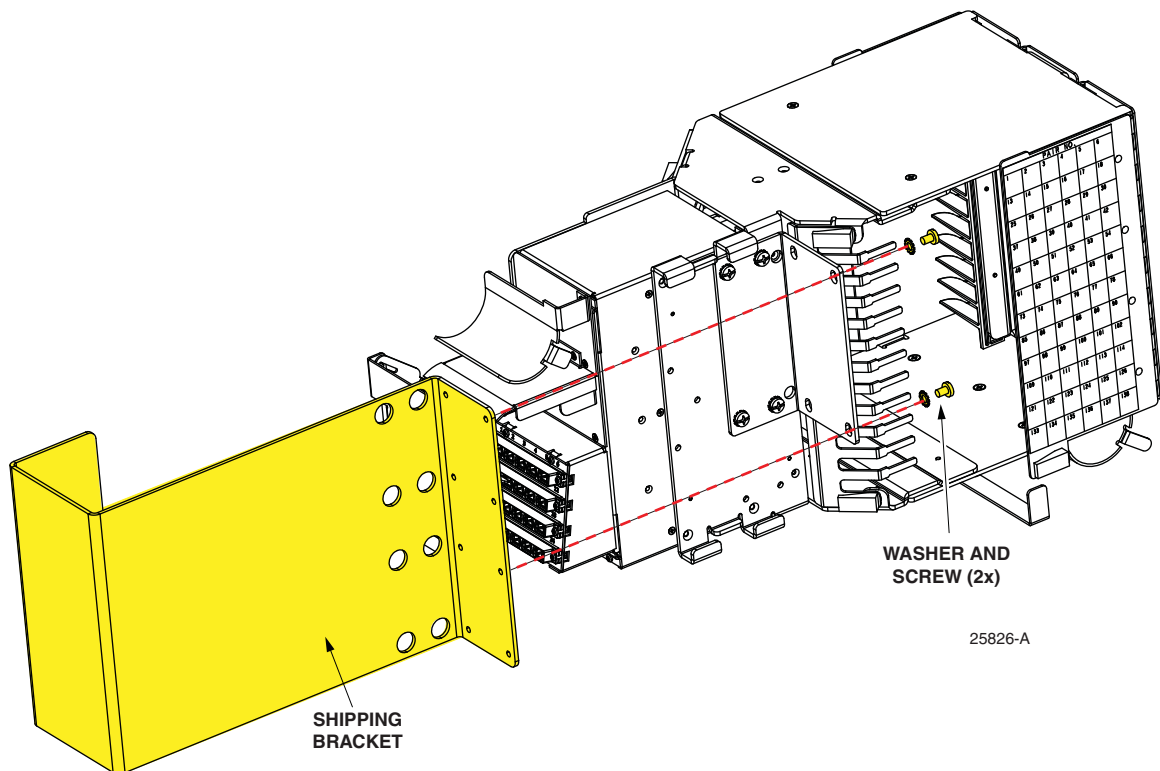

Figure 3. Shipping Bracket Removal From FTB
1. For an FTB that is not pre-terminated with IFC/OSP cable, remove the shipping bracket. Refer to Figure 3.